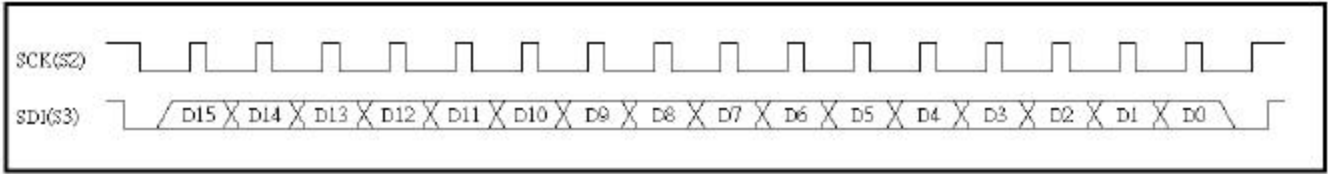
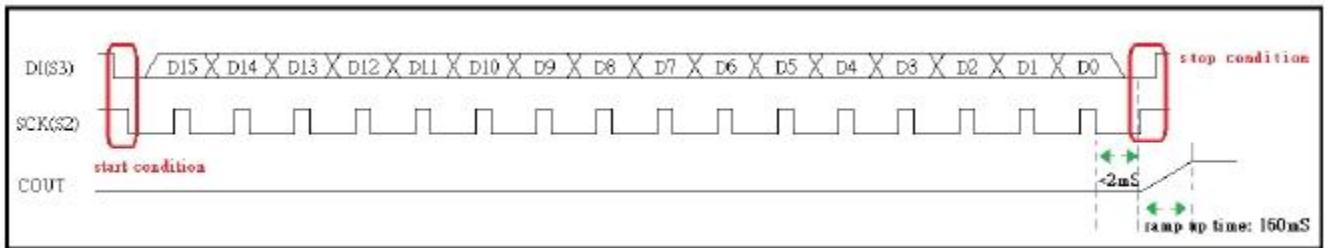
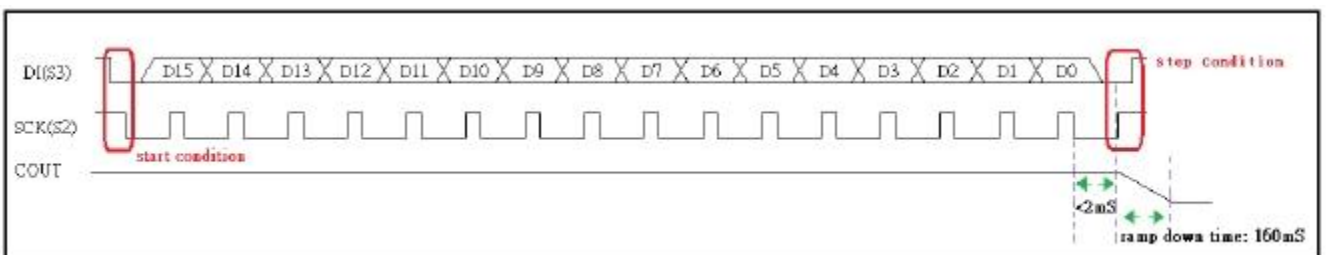

Fig.14 I2C Command timing
Fig. 15 Power-Up command timing
Fig. 16 Power-Down command timing
- (1). Load Voice Group Address :
- a. Command timing reference Fig.14 I2C Command timing.
- (2). Play Voice Group Address :
- (3). Power up with RAMP-UP(PU2) or without RAMP-UP(PU1) :
- a. Command timing reference Fig. 15 Power-Up command timing.
- (4). Power-down with RAMP-DOWN(PD2) or without RAMP-DOWN (PD1) :
- a. Command timing reference Fig. 16 Power-Down command timing.
- (5). Volume Set (VOL[3:0]) :
- (6). Volume - - (VOL--):
- (7). Volume + + (VOL++):
- (8). Pause and Resume (PAUSE; RESUME) :
- (9). Rewind :